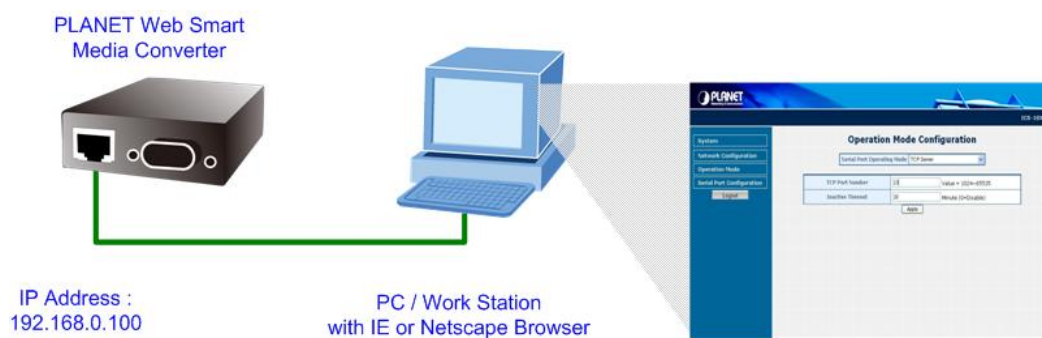

Figure 3-1 Web Management over Ethernet
2. When the following login screen appears, please enter the default username and password (default user name and password is **"admin"**). Press Login to enter the main screen of ICS-10X. The login screen in Figure 3-1 appears.